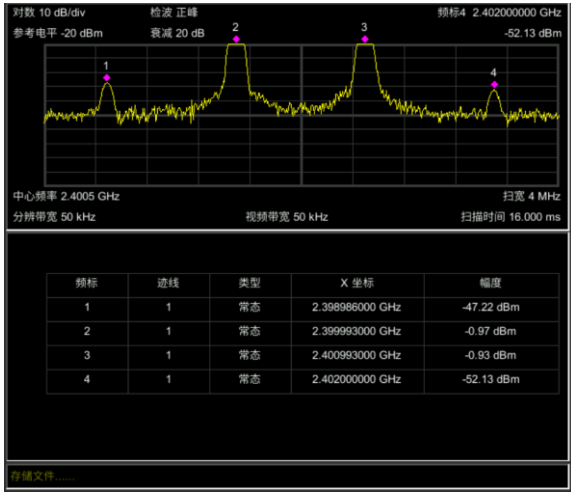

Fig. 4. Screenshot of the amplifier two-tone measurement.
4. The spectrum analyzer screen should look like the following (Fig. 4).